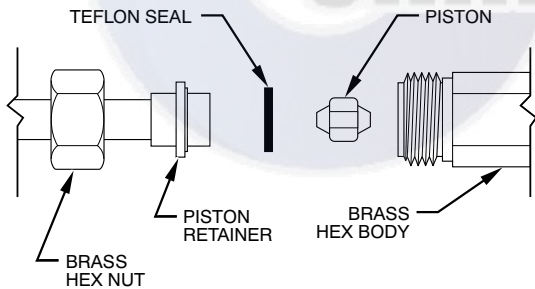

Fig. 29 – Refrigerant Flow-Control Device (For FB and FMA4P)A93530
2. Recover remaining refrigerant from tubing and coil through gage port on vapor-tube service valve. Disconnect refrigerant (liquid) tube from piston body (Fig. 29).